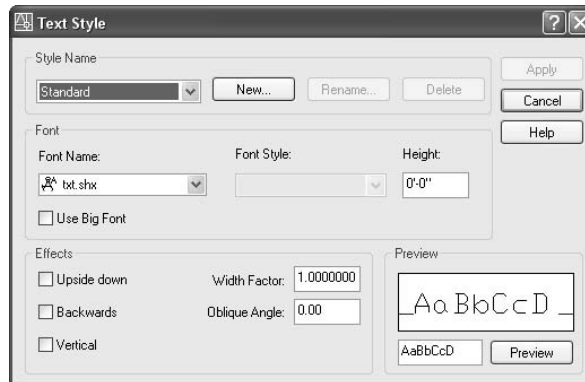

FIGURE 10.2: The Text Style dialog box, in which text styles are set up
1. Type **st** to start the Style command and open the Text Style dialog box (see Figure 10.2). In the Style Name area, you will see the default Standard text style.
Look back at Figure 10.2 for a moment, and note that the Standard text style has a height of 0'-0". When the current text style has a height set to 0, you are prompted to enter a height each time you begin to place single-line text in the drawing. The default height will be $\frac{3}{16}$ " (or 0.20 for decimal units and 2.5 for metric). Multiline text will use the default height of $\frac{3}{16}$ " unless you change it.